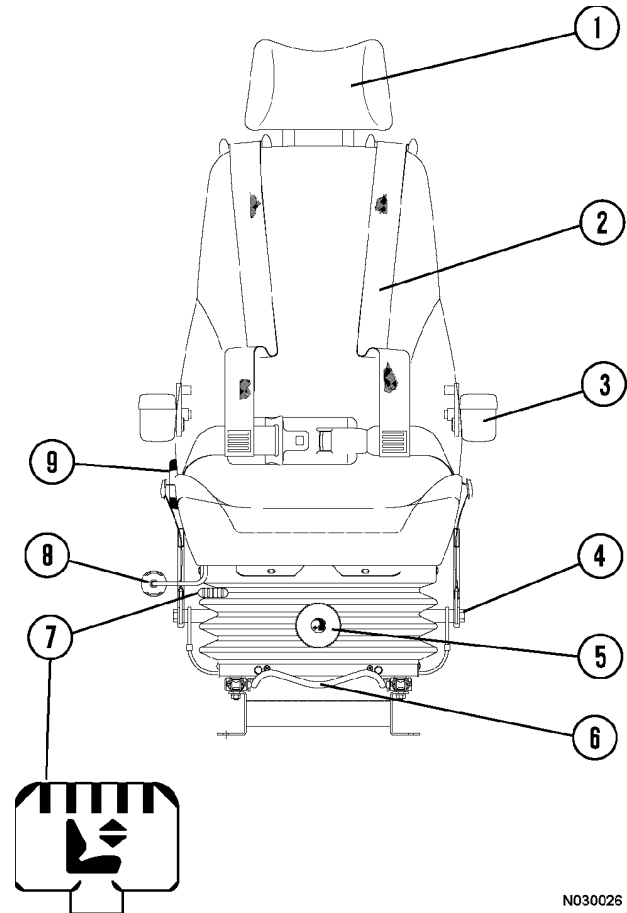

FIGURE 32-5. OPERATOR'S SEAT
- **Headrest** (1, Figure 32-5): Adjust up, down, fore, or aft by moving headrest to desired position.
- **Armrests** (3): Rotate adjusting knob until armrest is at desired angle.
- **Backrest:** Rotate knob (9) to adjust the backrest angle.
- **Seat Belt Harness:** Operator must always have four-point seat belt harness (2) buckled in place and properly adjusted during machine operation.
- **Air Lumbar Support:** Use lumbar hand pump (8) to adjust the air support. A release button on the back of the hand pump releases the air from the lumbar support.
- **Fore/Aft Adjustment:** Lift lever (8) and hold. Slide the seat to a comfortable position and release the lever to lock the adjustment.
- **Seat Height:** Lift lever (7) and then push the lever down to raise the seat one level. To lower the seat one level, push lever (7) down, and then pull the lever up. Release lever to lock the adjustment.
- **Seat Tilt:** Pull lever (7) up to tilt the seat rearward. Push the lever down to tilt the seat forward. Release the lever to lock the adjustment.